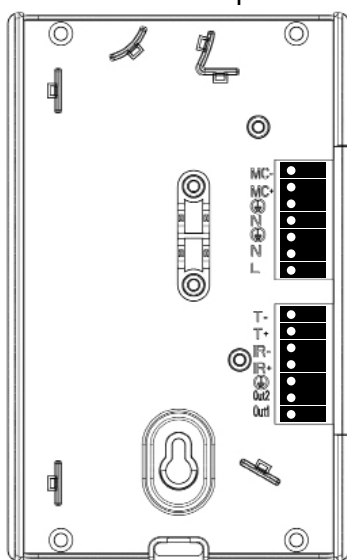

Fig. 1
Connections, see fig. 1
1. Connect the IR input's ground to the receiver units connection (see fig. 1) "IR-"
2. Connect the IR input's signal to the receiver units connection (see fig. 1) "IR+"
1. Connect the 12-volt trigger input's ground to the receiver units connection (see fig. 1) "TR-"
2. Connect the 12-volt trigger input's signal to the receiver units connection (see fig. 1) "TR+"
Anslutningar, se fig. 1
1. Koppla IR-anslutningens jord till kontrollboxen, märkning "IR-", se fig. 1
2. Koppla IR-anslutningens signal till kontrollboxen, märkning "IR+", se fig. 1
1. Koppla trigger utgångens jord till kontrollboxen, märkning "TR-", se fig. 1
2. Koppla trigger utgångens signal till kontrollboxen, märkning "TR+", se fig. 1